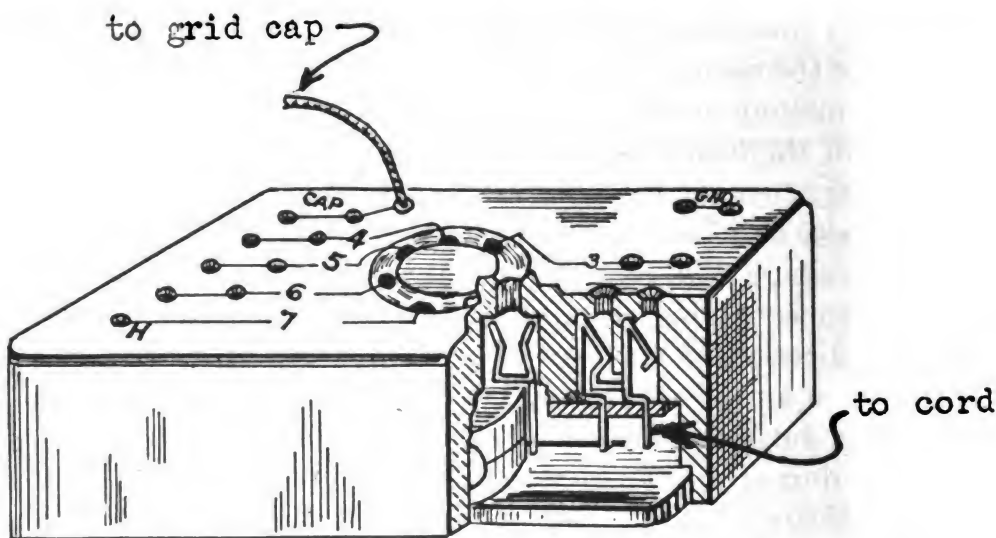

FIGURE 71.—Analyzer socket.
- (1) Failure to make the line voltage adjustment.
- (2) "Diodes only" or "battery type" switches in wrong position.
- (3) Not testing each section of dual purpose tubes separately.
- (4) Improper setting of tube selector on filament selector control.
**59. Set analyzer.**—a. The selective set analyzer enables voltage, current and resistance measurements to be made on the stages of a radio receiver without removing it from the case. It consists of a multi-range volt-ohm-milliammeter with a special cord, plug and socket arrangement for making meter connections to the vacuum tube circuits. A twin pin-jack is arranged to break the circuit for taking current readings. Figure 71 shows how this is accomplished. It
can be seen by studying figure 71 that in order to measure current two adjacent pin-jacks must be used. This permits the current to flow out from the inside jack through the meter and back to the adjacent outside jack. When measuring voltage or resistance the *outside* jacks must be used in order not to break the circuit.